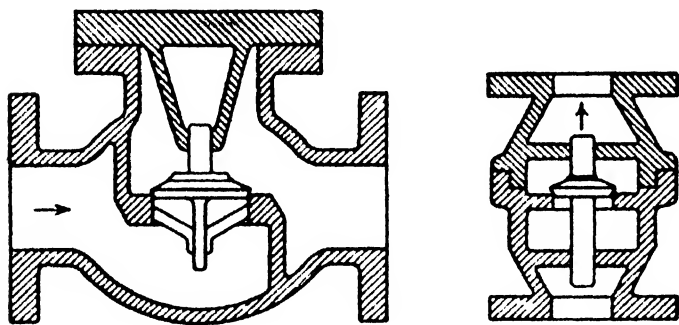

FIG. 116.—Non-Return, or Check Valves.
**The Back-pressure Valve.**—Back-pressure valves are really non-return valves, and they function exactly similar to the Check valves shown in Fig. 116. They are called back-pressure valves for the simple reason that they prevent pressure
being connected to a hand wheel so that the valve can be held shut if required so. When the pressure is removed from the valve, the flow is free to lift it from its seat, but the return is checked. In Fig. 116 are shown diagrams of what are known as check valves of the horizontal and the vertical types; these are not controllable.